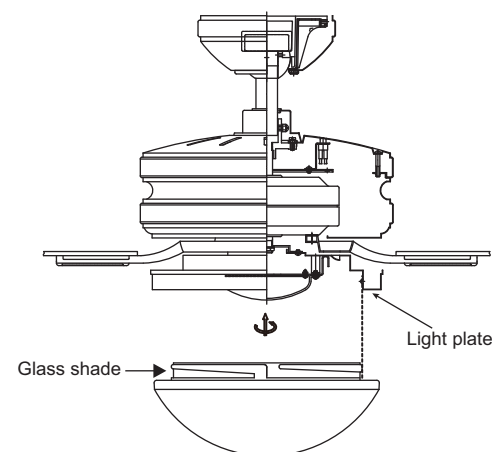

Fig. 19
Step 4. Raise the glass shade against the light kit and turn clockwise until snug, DO NOT OVERTIGHTEN. (Fig. 19)